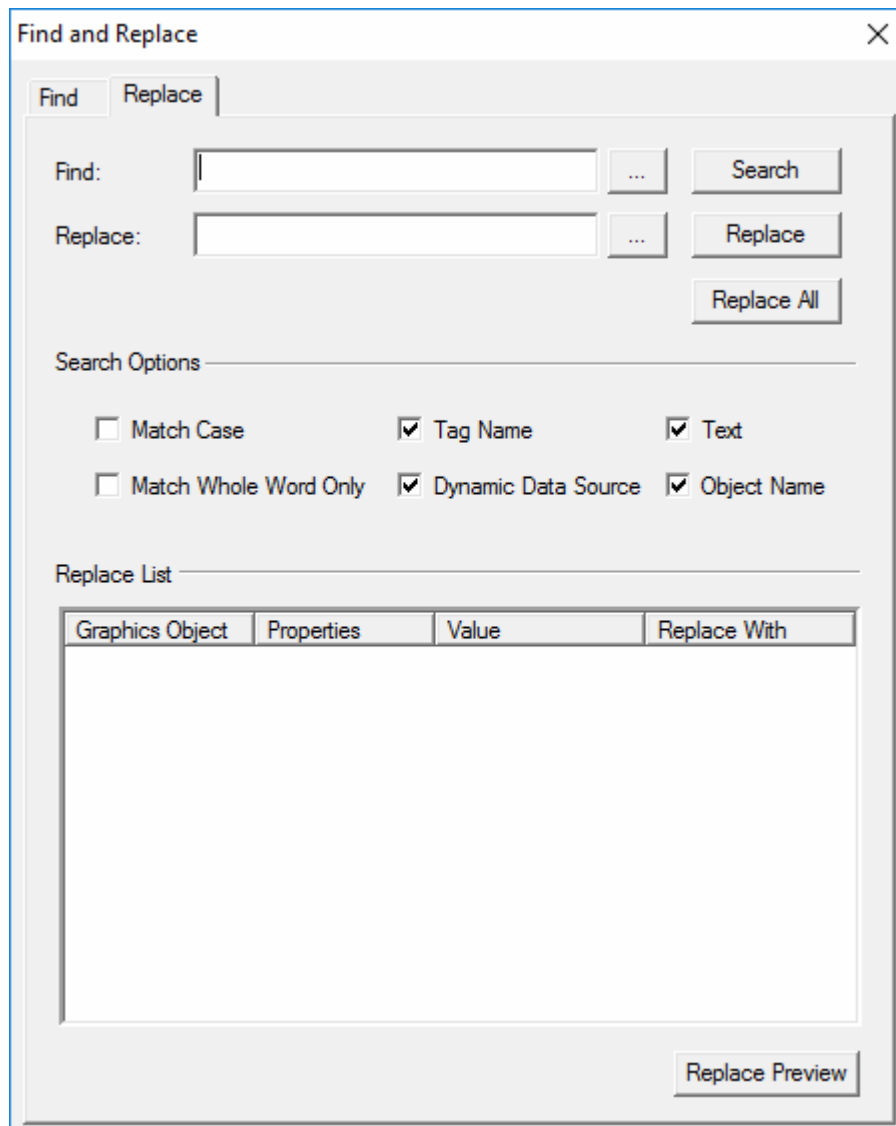

Figure 3-14 Dialog box “Replace”
- **Replace:** Replace the object in graphics, as shown in Figure 3-14.